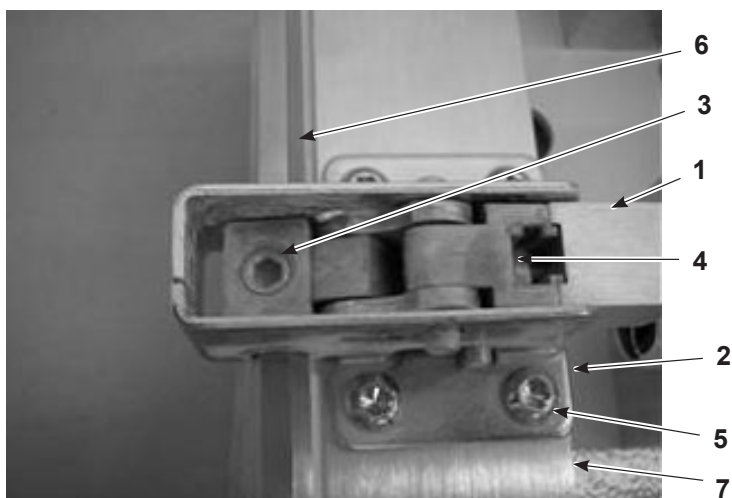

Figure 8-3 Latch Replacement
1. Make sure the clamping cylinder and the new latch are fully extended and that the top surface of the latch pawl (1) is flush with the top surface of the pawl mount (4). Adjust the pawl position if necessary by loosening the Philips-head screw in the pawl recess.
4. See Figure 8-3. If all latches have been removed from the hex shaft, push or pull on the hex shaft (4) to center the lever (2) in the yoke (1) before you tighten the set screw to secure the latch to the hex shaft.